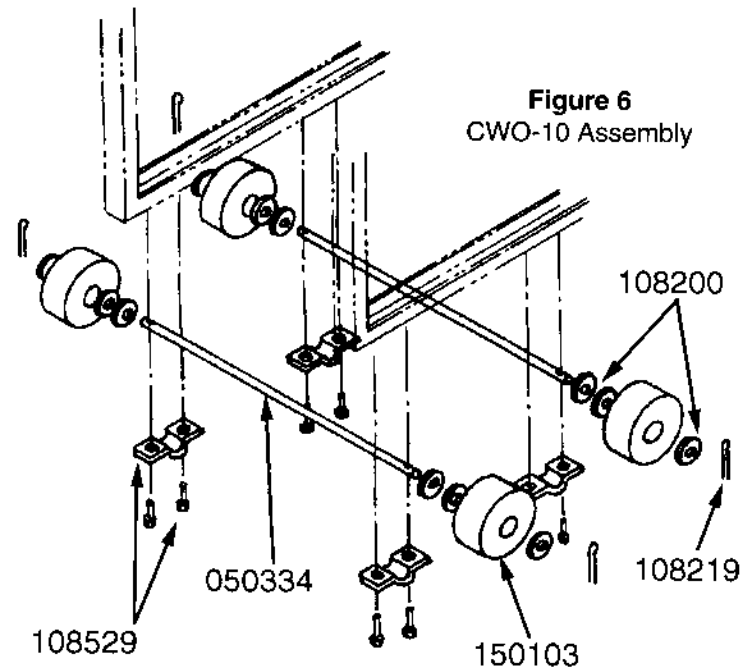

Figure 6
- (1) With cradle upside down, place axle clips (from #108529) over the axles (#050334), and bolt loosely to side frames. Center axles by eye. Slide two washers (#108200) on each axle as shown. Slide wheels (#150103) onto axles, then one more washer for each wheel. Insert cotter pins (#108219) in holes at end of axles and bend. See Figure 6.